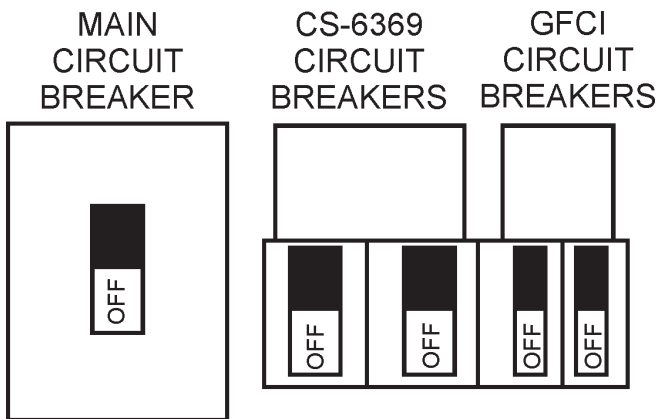

Figure 31. Main, Aux. and GFCI Circuit Breakers (OFF)
1. Place the **main, G.F.C.I., and aux.** circuit breakers (Figure 31) in the **OFF** position.